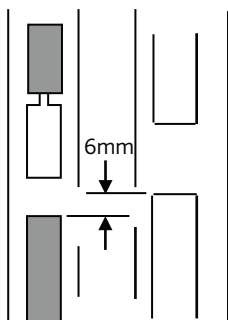

Fig 1.
- Deadbolt (PVCu only) should be approximately 6mm below the top of the keep deadbolt aperture – **Fig 1**.